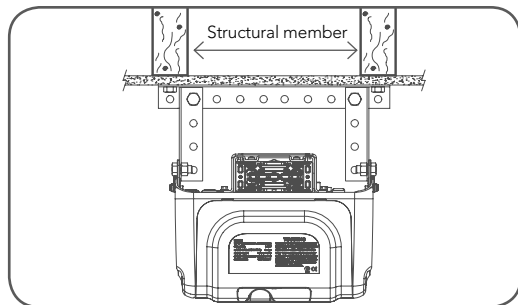

fig 16
- Secure the perforated angle (not supplied) to the ceiling above where drive unit's mounting holes will be once fully installed. A representative mounting is shown (Fig. 16).
- Connect the drive unit to the ceiling mounted perforated angle with M8x20mm screws and nuts. Strips should not extend more than 18mm below centre of drive unit mounting holes (Fig. 16)